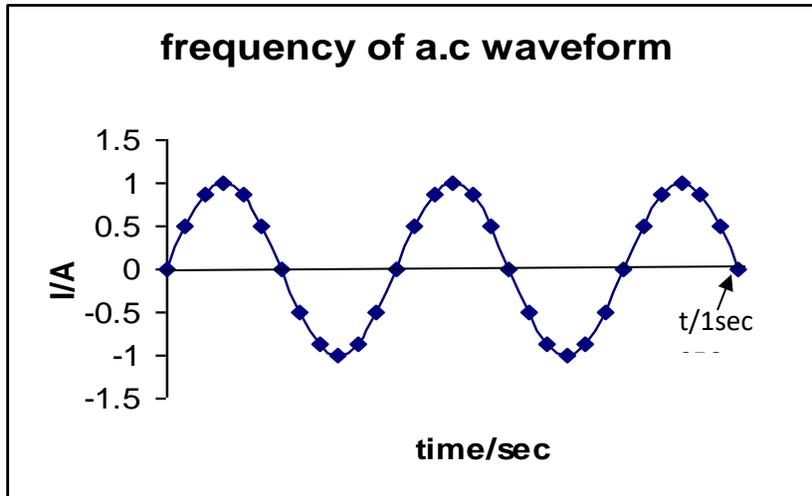

fig 5 : Diagram showing frequency of a.c waveform is 21/2 Hz.
**PERIOD:** This is the time it takes for the a.c. current waveform to make one complete cycle. The period of an a.c waveform is represented by the symbol, T, and is measured in the units, seconds. The period of the a.c. waveform in fig 5 is 0.4 seconds.
**FREQUENCY:** The number of cycles of an a.c. current/voltage waveform completed in one second is termed the frequency of the a.c. current/voltage. The symbol for frequency is the letter 'f' and its unit, the Hertz(Hz). One (1) Hertz is equal to a frequency of one cycle per second.
The electric power generating company of Trinidad and Tobago, generates current for distribution at a frequency of 60 cycles/second or 60Hertz(60Hz). There is a relationship between the frequency of an a.c waveform and its period. The frequency = 1/period ( $f = 1/T$ ) and  $T=1/f$  . The frequency of the a.c. waveform in fig 5 is 2.5 Hz and the period is  $T = 1/f = 1/ 2.5 = 0.4\text{secs}$ .